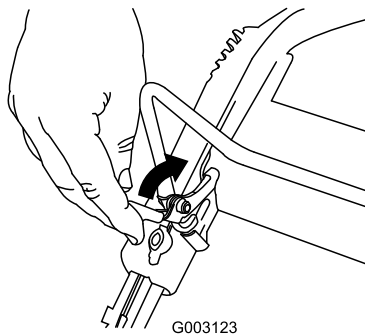

Figure 23
1. Pull the control bar lock back (Figure 23).